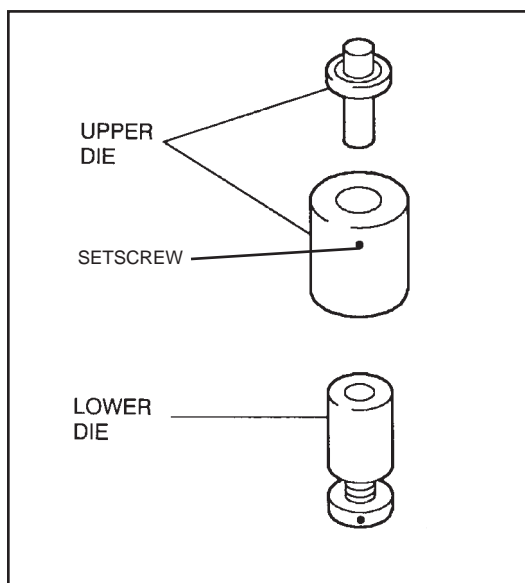

Figure A.3
2. Place the lower nonhermetic die (Figure A.3) into the lower die holder (large end up).